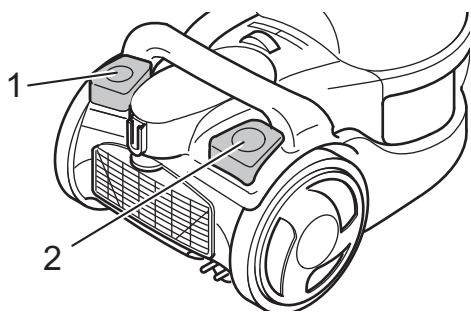

Fig. 14
1. Switch off the cylinder vacuum cleaner using the on/off switch (Fig. 14/1) and pull the plug out of the socket.
3. Press the cable retract button (Fig. 14/2) to pull in the power cable. Guide the last part with the plug by hand.